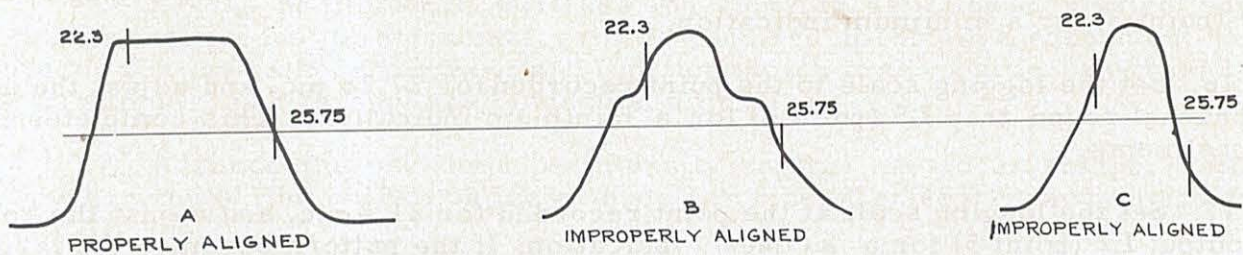

FIG. 5. PICTURE IF RESPONSE — STAGGER TUNED
26. Compare the pattern with the one shown in the manufacturer's instructions. Figure 5 shows an example of an i-f response curve. If the system has been aligned properly, it should resemble figure 5A.
27. Turn the SIGNAL switch to UNMOD. R.F. and set the logging scale of the A.M. Generator to the point for 22.3 mc. A marker should appear on the pattern as shown at the left in figure 5 A, B, and C. Adjust the SIGNAL ATTENUATORS and the F.M. ATTENUATORS for the desired balance of signal strengths. If the marker signal is too strong, the curve will be distorted and it will be difficult to measure its exact position on the pattern.